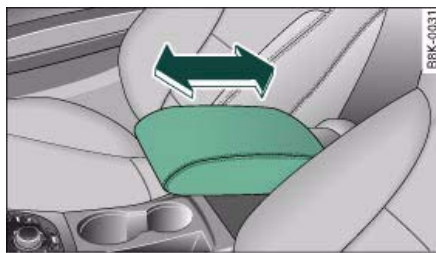

Fig. 78 Armrest between driver's seat and front passenger's seat
- You can move the armrest backwards or forwards ⇒ fig. 78.